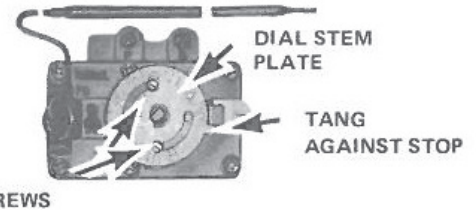

FIGURE 2
3. Slide retainer plate into large opening and remove. See Figure 2.